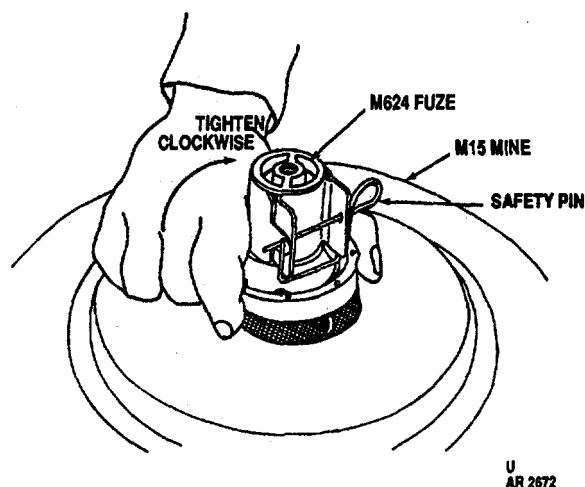
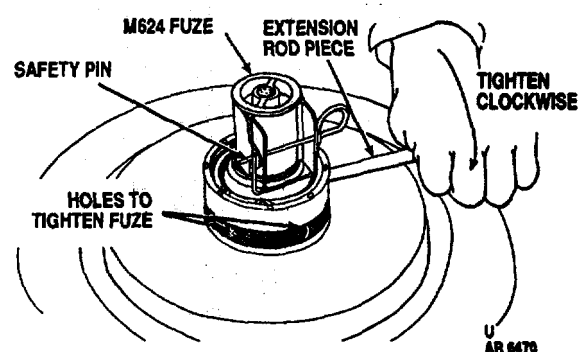

Figure 2-36. Tighten fuze by hand.
Figure 2-37. Tighten fuze with extension rod.
- (14) Screw fuze clockwise hand-tight into threaded fuze well of mine (fig. 2-36). Remove extension rod from packaging. To tighten fuze, insert one unthreaded end of extension rod piece in the hole on the side of the adaptor and turn the fuze a quarter turn. After fuze is secure, remove extension rod for further use (fig. 2-37).